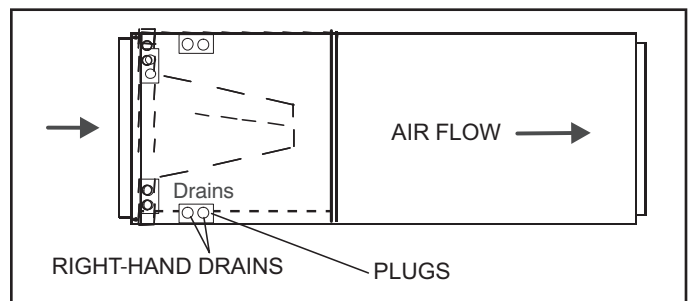

FIGURE 8. Right-Hand Discharge Configuration
- 4 - The horizontal configuration is shown in figure 8.